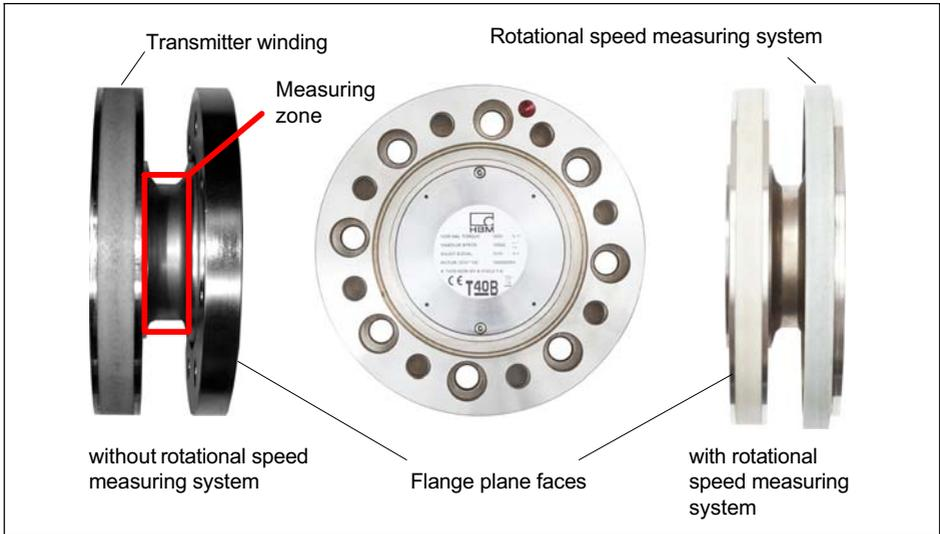

Fig. 5.1 Bolted rotor connection
Make sure during installation that you do not damage the measuring zone marked in Fig. 5.1 by using it to support tools, or knocking tools against it when tightening screws, for example. This can damage the transducer and produce measurement errors, or even destroy the transducer.
2. For the bolted rotor connection (see Fig. 5.1), use six or eight DIN EN ISO 4762 hexagon socket screws of the property class stated in Tab. 5.1, in a suitable length (dependent on the connection geometry, see Tab. 5.1 on page 26).